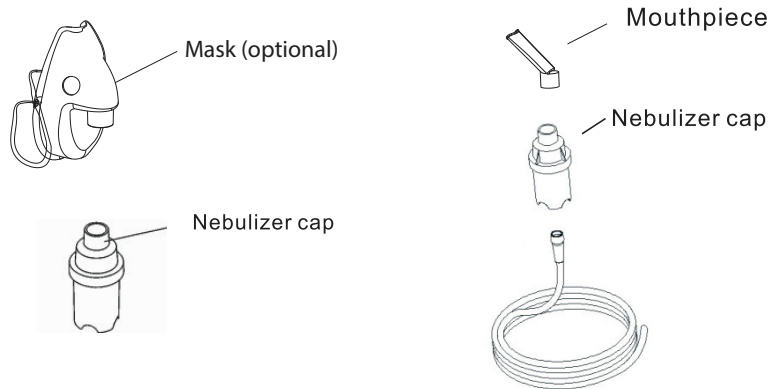

Figure 4
7. If using the mask (optional), press it directly into the nebulizer cap (Figure 4).
If using the mouthpiece, attach it firmly into the nebulizer cap. The cap is designed to fit tightly (Figure 4).